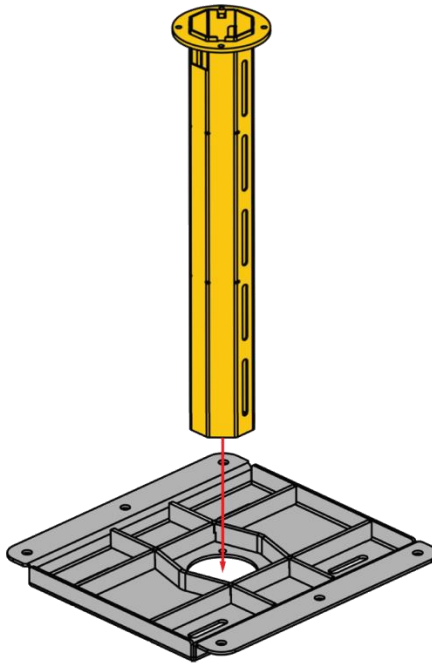

Figure 78: Step 1
Step 1: Start the assembly of the VM-1140 ceiling mount by sliding the upper tube ② over the ceiling plate ①, as shown in **Figure 78**.